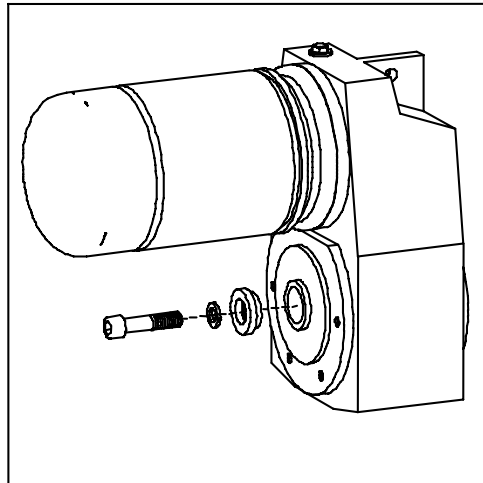

Figure 5.4a - Remove the Locking Bolt, Spring Washer and Stepped Spacer
4. Unscrew the locking bolt, spring washer and stepped spacer from the drive shaft, located at the rear of the gearbox (see fig. 5.4a).